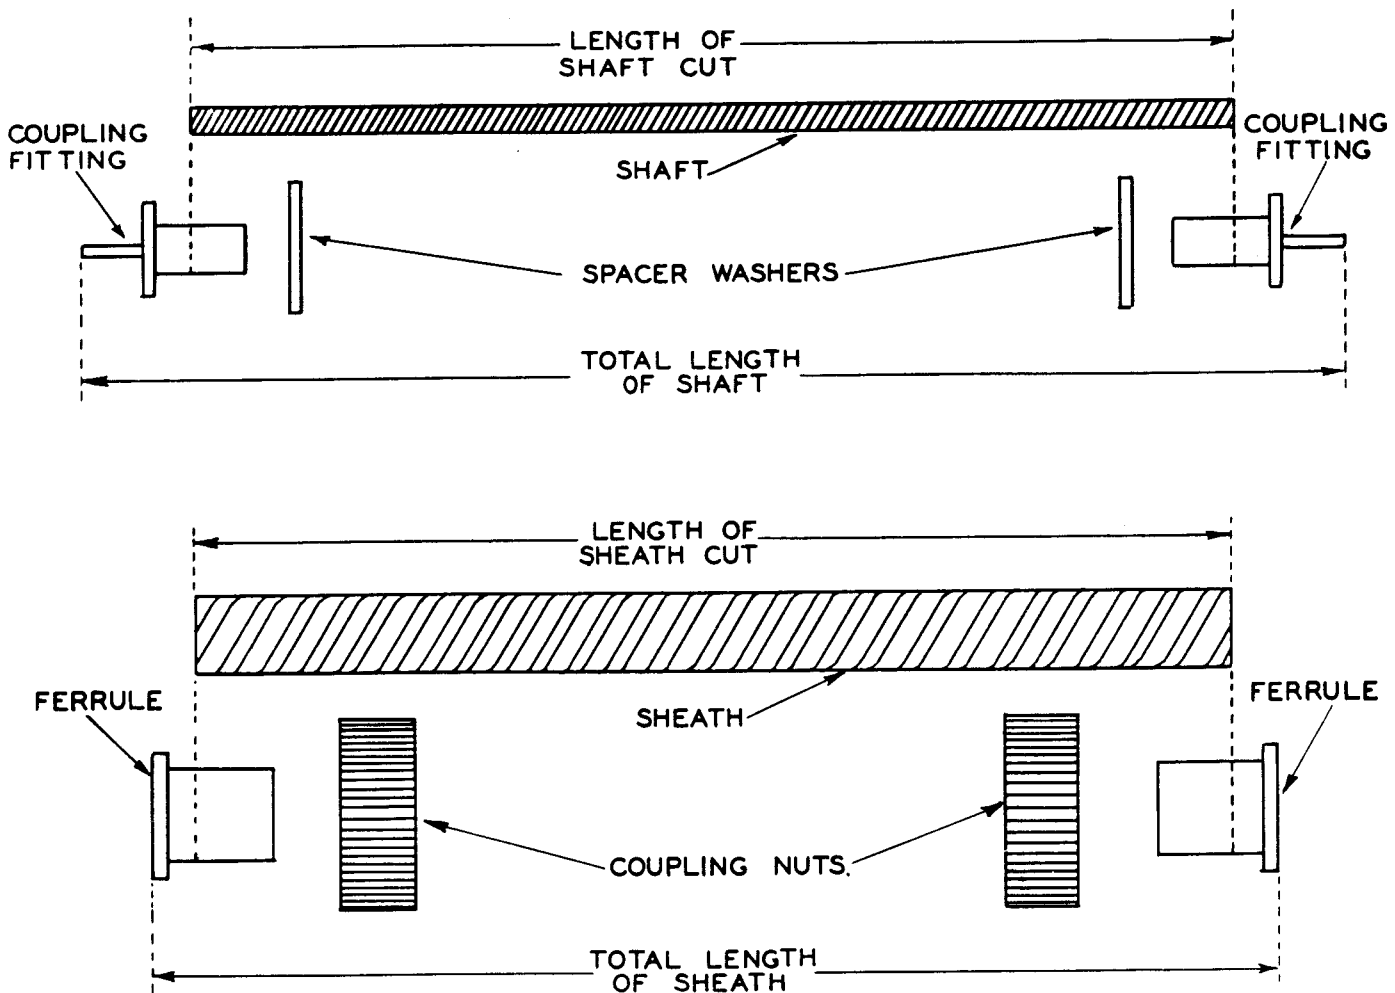

FIGURE 29. PROCEDURE FOR FABRICATING REMOTE TUNING CABLES
(1) Accurately measure total length of the sheath from end of each ferrule, as shown in figure 29.
(2) Allow for the type of ferrules to be used, and cut the sheath as suggested.
(3) Slide the coupling nuts over the sheath, and place the sheath firmly into ferrules.
(7) Repeat steps (1) through (6) on the opposite end of the sheath. This completes the fabrication of the sheath.
(8) Grease shaft with special lubricant (60238) and slide the shaft through the sheath, and carefully measure the length to be cut. Make allowance for the spacer washer and depth of the coupling fittings. See figure 29.
(9) Following any of the methods previously suggested, cut the shaft and finish the ends to fit the coupling fittings snugly.
(10) Slide the spacer washer over one end of the